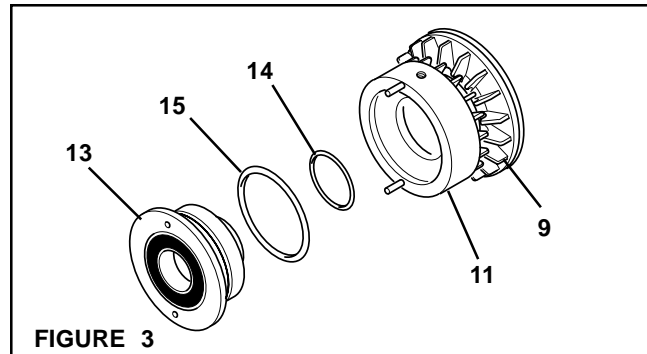

FIGURE 3
3. Apply air pressure to separate the Piston (Item 13) from the Cylinder (Item 11) and Friction Disc (Item 9) (See Figure 3).
4. Remove the two O-ring Seals (Items 14 and 15) from the Piston (Item 13) (See Figure 3).